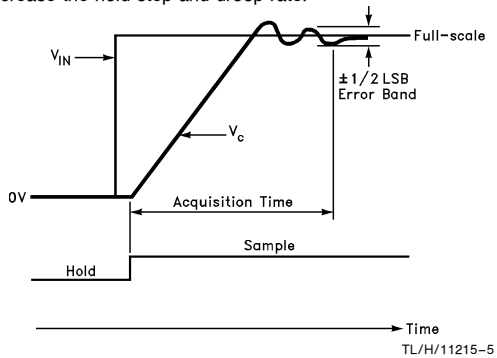

FIGURE 5. Acquisition Time
**Acquisition Time** is the maximum time required to acquire a new input voltage once a sample command has been given (Figure 5). A signal is “acquired” when it has settled within a specified error band around its final value of output voltage. The error band is usually either 0.1%, 0.01%, 1 mV, or  $\frac{1}{2}$  LSB (in applications that involve an ADC). The maximum value of the acquisition time occurs when the hold capacitor must charge to a full-scale voltage change. The acquisition time depends on the value of the hold capacitor, and this value must be specified if the hold capacitor is supplied externally. The acquisition time can be reduced by choosing a smaller hold capacitance; however, this will increase the hold step and droop rate.